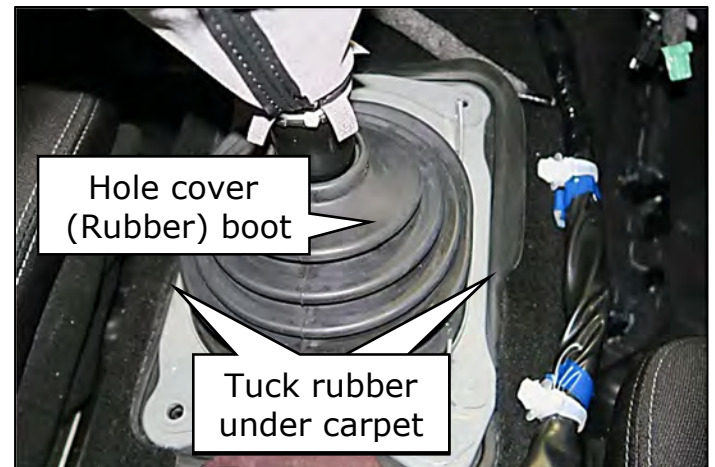

Figure 103
- Tuck the edges of the rubber boot under the carpet on the top and both sides (Figure 103)
- Install the (4) bolts and start by hand